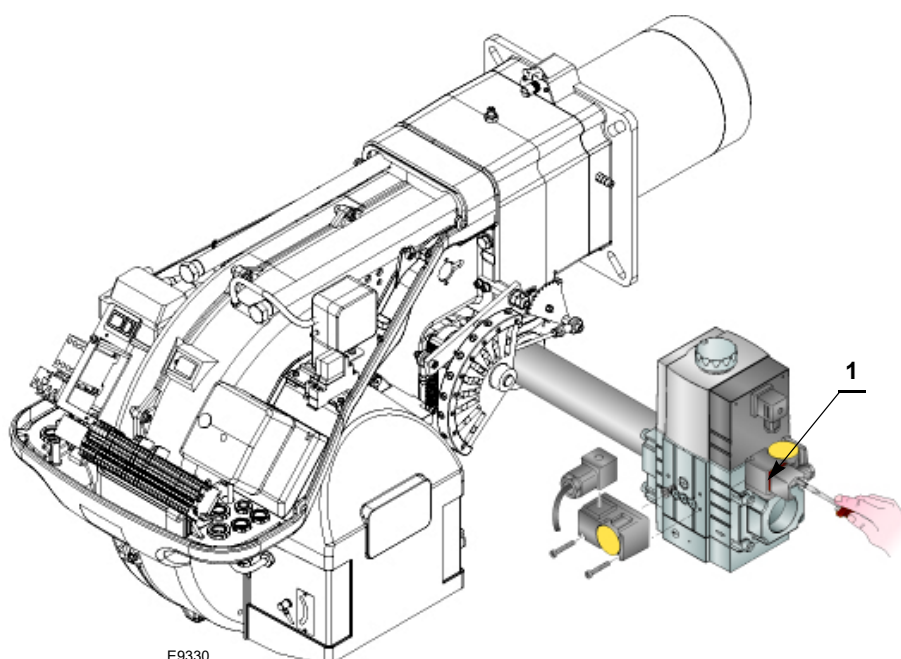

Fig. 26
- Check the gas supply pressure by connecting a pressure gauge to the pressure test point 1)(Fig. 26) of the minimum gas pressure switch: it must be lower than the maximum allowed pressure of the gas train, as shown on the characteristics label.
- Bleed the air from the piping of the gas train, connecting a plastic tube to the pressure test point 1)(Fig. 26) of the minimum gas pressure switch. Take the vent tube outside the building so you can notice the smell of gas.